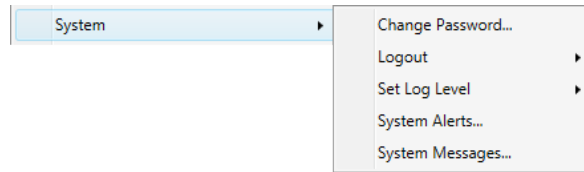

Figure 3-25 – System Menu
- **System Menu** (see Figure 3-25): This option allows the operator to perform various system level functions for the user.